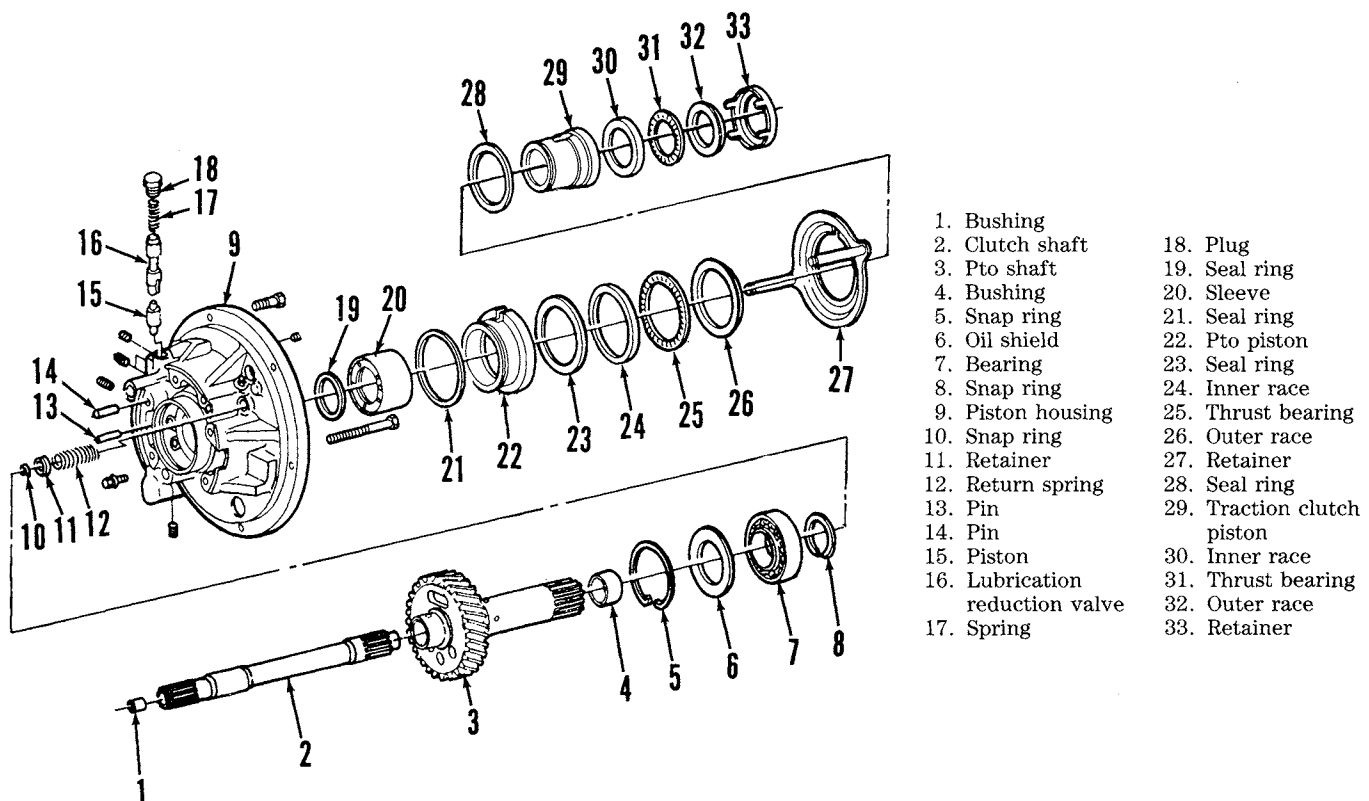

Fig. 109—Exploded view of clutch operating piston assembly.
To disassemble, remove traction clutch piston (29—Fig. 109), straighten tangs on bearing retainer (33) and separate thrust bearing assembly from piston.
Position pto gear (3) so ends of snap ring (5) are accessible through slotted hole in gear. Working through slotted hole, disengage snap ring from its groove, then withdraw pto shaft with bearing (7) from piston housing. Remove pto brake piston (if so equipped) from housing. Remove cap screws securing clutch piston sleeve (20—Fig. 109) and remove sleeve. Depress return springs (12) and remove retaining rings (10) and washers (11). Separate pto clutch operating piston (22) and thrust washer assembly from piston housing. To remove lube reduction valve (16) and piston (15), remove plug (18) and drive stop pin (13) rearward from housing until piston can be removed.
To reassemble, reverse the disassembly procedure. Tighten cap screws securing sleeve in housing to 5 ft.-lbs. (7 N·m). Install pto brake piston making sure hole in piston is aligned with dowel pin. Be sure pto clutch piston (22—Fig. 109) is positioned so notch in piston will face upward when installed in tractor. Install retainer (27) so lug on retainer is aligned with notch in piston. Install lube reduction piston (15) so smaller end will be toward valve (16).